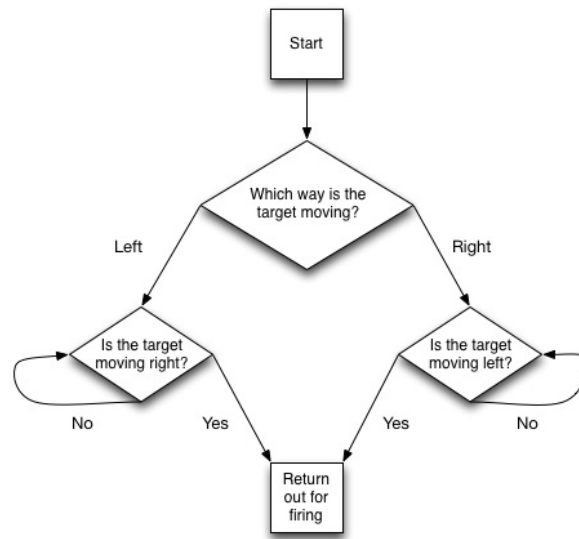

Figure 1. Pseudo-Code for Dynamic Target Tracking
- For CMUcam4 progress this week, I made the system track dynamic targets. I essentially waited for the target to reach one edge and then let another state get ready to shoot. We know that it'll take the same amount of time for the target to go to the center from either edge, so this seems to be a valid tactic. The pseudo code is shown in Figure 1.